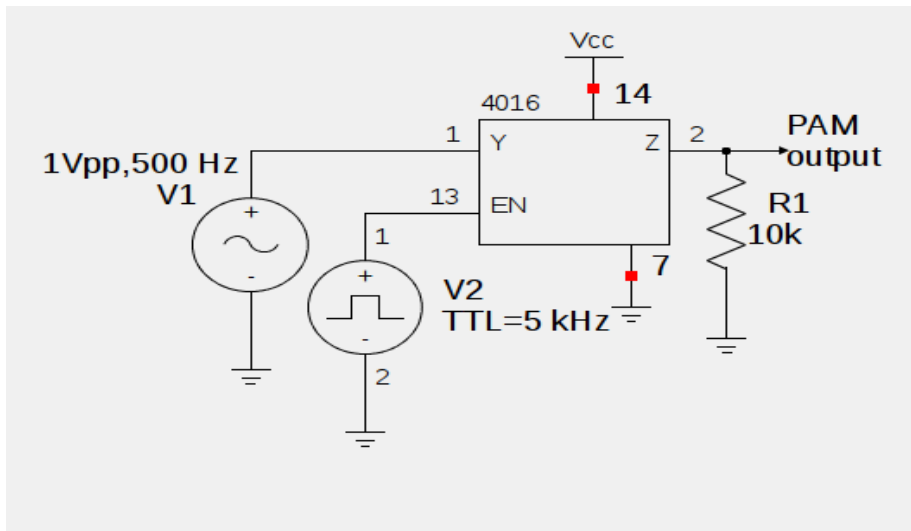

Figure 5.4: PAM generation using CD4016
The PAM generation using CD4016 is shown in Figure. 5.4. Demodulation can be done in the same way as shown in 5.3.
- Make connections as shown in the circuit diagram Figure. 5.4. If IC is used for modulation make sure it is biased with  $V_{DD} = 5V$  and is properly grounded.